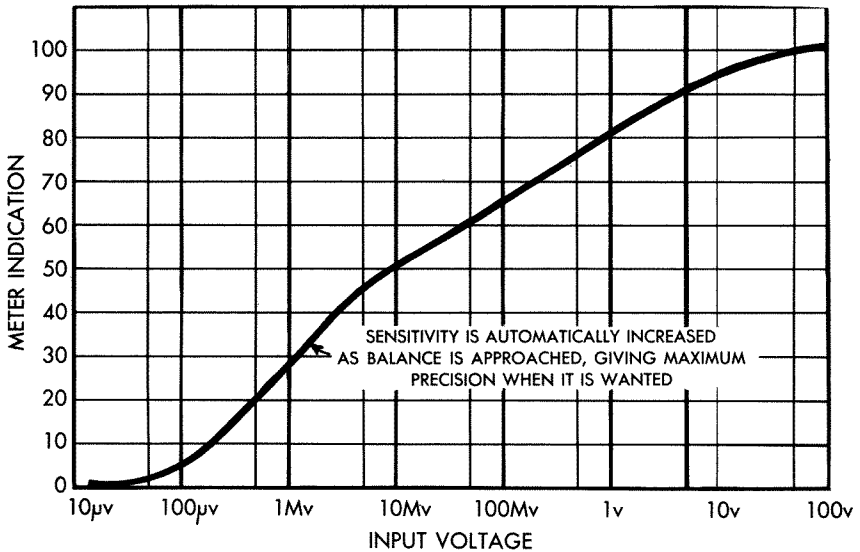
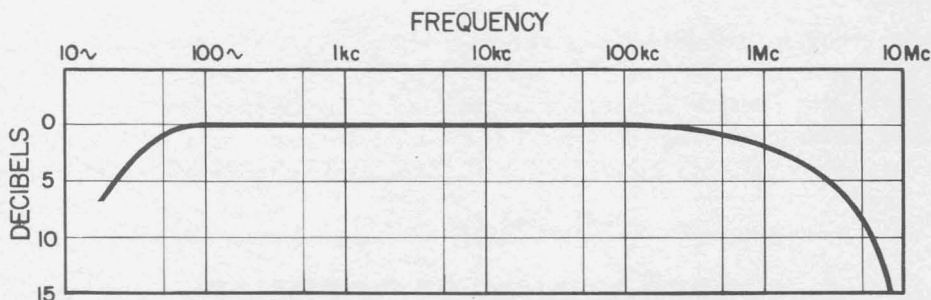

Figure 3. Typical Voltage-Response Curve.
Figure 4. Typical Frequency-Response Curve.
**Voltage Response:** See Figure 3.
**Frequency Response:** See Figure 4.
The meter has an approximately logarithmic response to input voltage up to 100 volts, as shown in Figure 3. Frequency response in decibels is given in Figure 4.